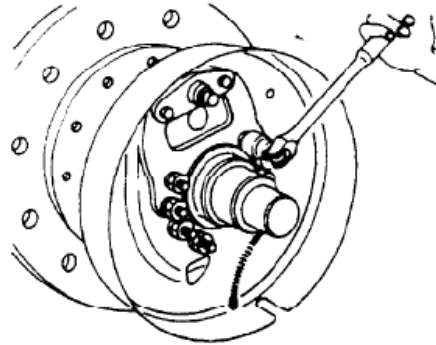

Fig. 2-15
(6) Remove the E-retainer for securing the parking brake cable to the backing plate. Remove the backing plate mounting bolts and detach the backing plate from the axle. (See Fig. 2-15)